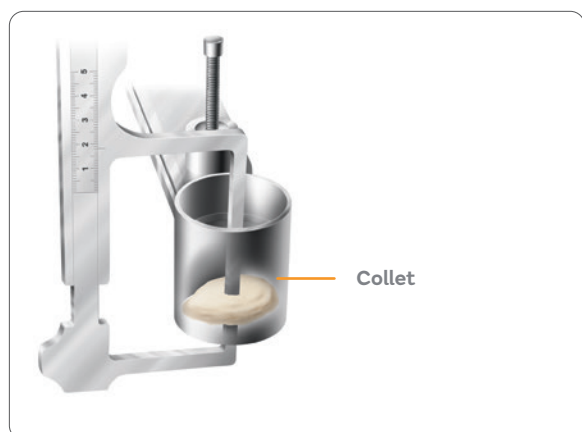

Figure 76
4. Measure patella thickness with the patellar calipers (**Figure 76**).